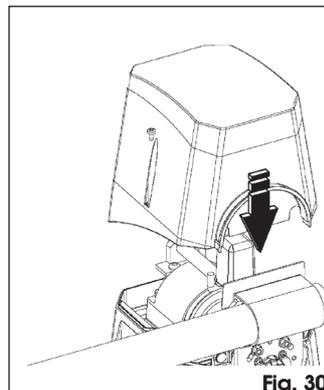

Fig. 30
- Re-position the top housing, Fig. 30.